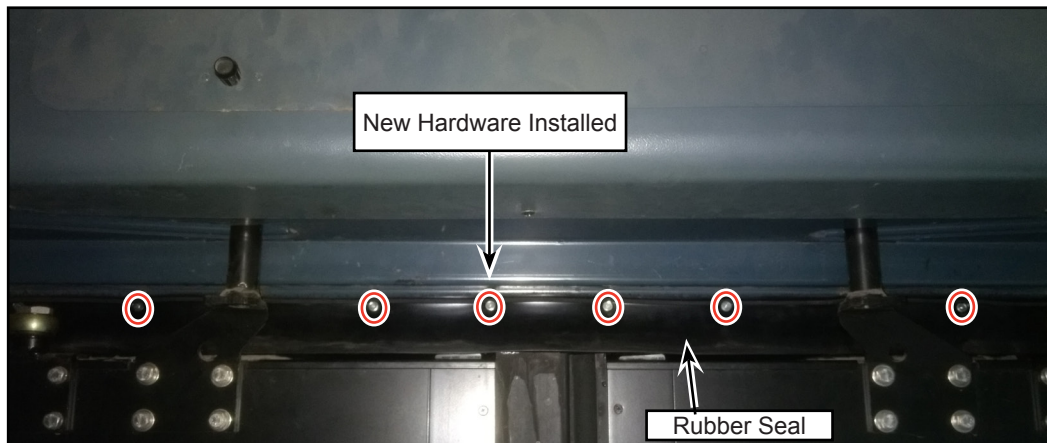

Figure 4 - Installation of Rubber Seal
- 1.7. Secure the rubber seal and upper door brush with the new screws (N20265) and washers (N8906932) (see Figure 4).